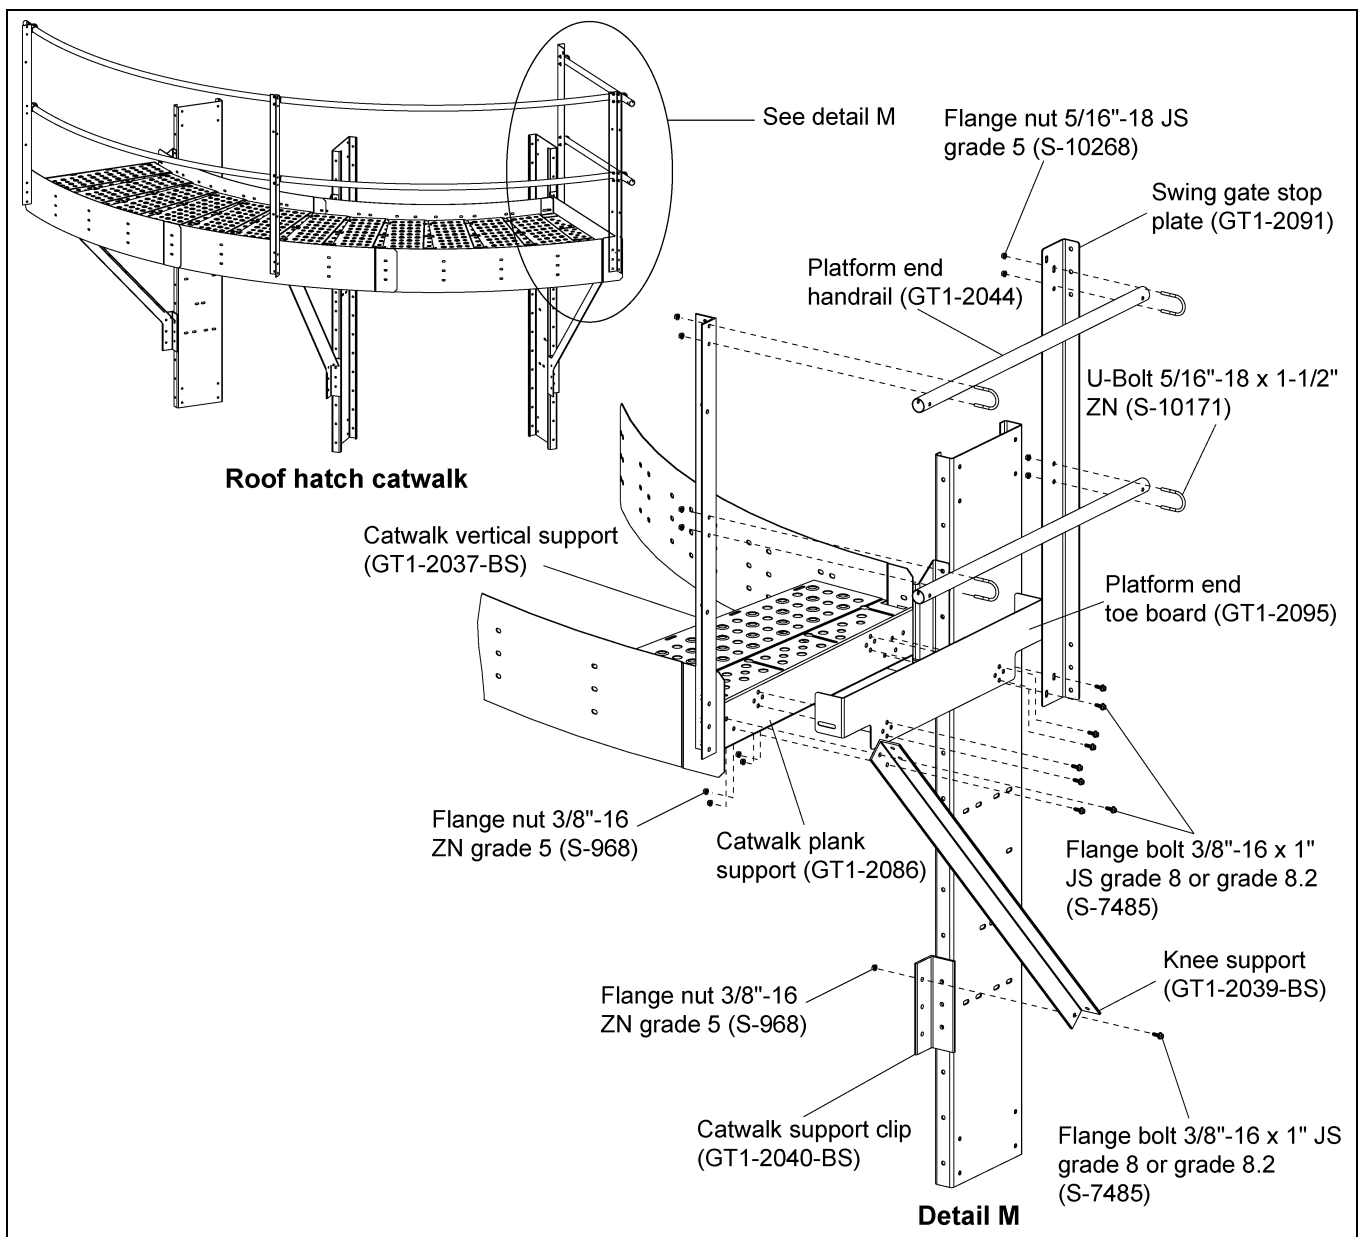

Figure 6W Roof Hatch Platform End Handrail (GT1-2044) Installation
4. Install the platform end toe board (GT1-2095) and knee support (GT1-2039-BS) to the catwalk plank support (GT1-2086) using 3/8"-16 x 1" JS grade 8 or grade 8.2 bolts (S-7485) and 3/8"-16 ZN grade 5 nuts (S-968). *(See Figure 6W.)*
7. Install the platform end handrail (GT1-2044) to the catwalk vertical support (GT1-2037-BS) and the swing gate stop plate (GT1-2091) using 5/16"-18 ZN U-bolts (S-10171) and 5/16"-18 JS grade 5 nuts (S-10268). *(See Figure 6W.)*